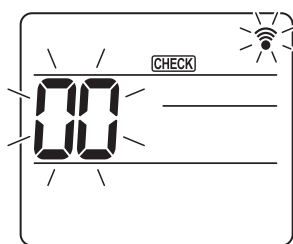
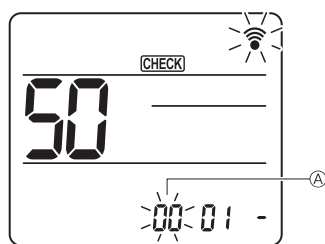
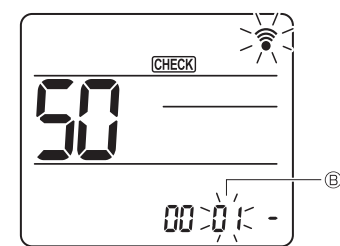
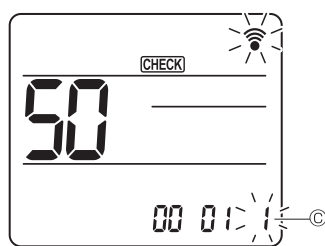

Fig. 7-18
Fig. 7-19
Fig. 7-20
Fig. 7-21
7.4.2. By wireless remote controller (Fig. 7-18, Fig. 7-19, Fig. 7-20, Fig. 7-21)
- ① Going to the function select mode
[CHECK] is lighted and "00" blinks. (Fig. 7-18)
- ② Setting the unit number
Press the [DOWN] button to set unit number ①. (Fig. 7-19)
- ③ Select a mode
Press the [DOWN] button to set Mode number ②. (Fig. 7-20)
- ④ Selecting the setting number
Use the [DOWN] button to change the Setting number ③. (Fig. 7-21)